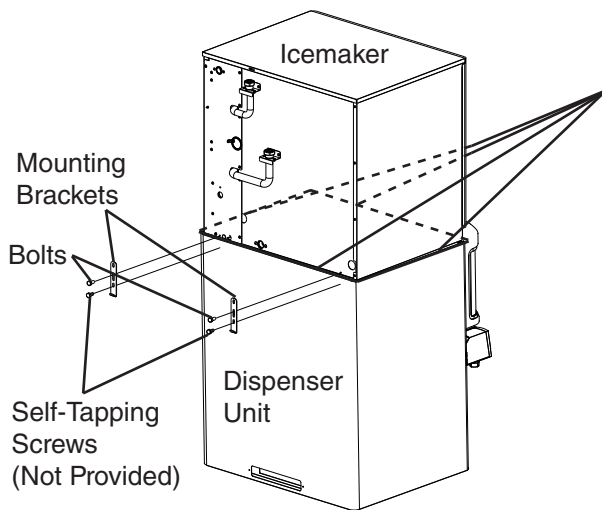

Fig. 6a
- 5a) **Dispenser Unit:** Follow the dispenser unit's instructions for securing the icemaker to the dispenser unit. If no instructions are available, secure the icemaker to the dispenser unit using the mounting brackets provided. Rotate the mounting brackets so that they fit flush to the dispensing unit. See Fig. 6a. Secure the mounting brackets to the icemaker with the bolts provided. Secure the mounting brackets to the dispensing unit with self-tapping screws (not provided). **NOTICE! Use care to avoid damage to the dispenser unit components when attaching the mounting brackets.** Seal the outer perimeter of the icemaker to the dispenser unit with RTV-748 sealant (provided) or equivalent.